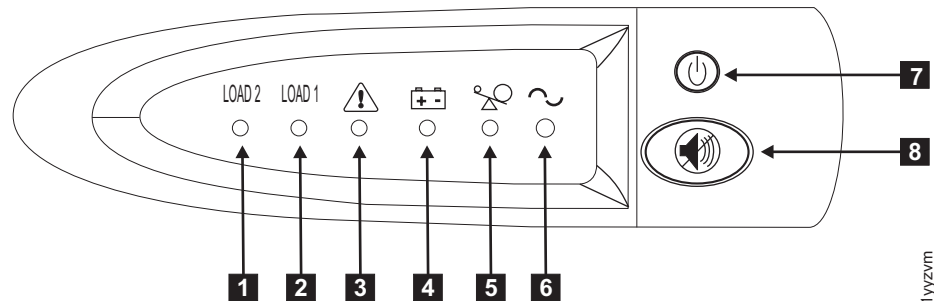

Figure 36. 2145 UPS-1U front-panel assembly
8. Press and hold the on/off button (**7** in Figure 36) for approximately five seconds. You might need a pointed device, such as a screwdriver, to press the on/off button. The front panel indicators cycle through a startup sequence while the 2145 UPS-1U conducts a self-test.